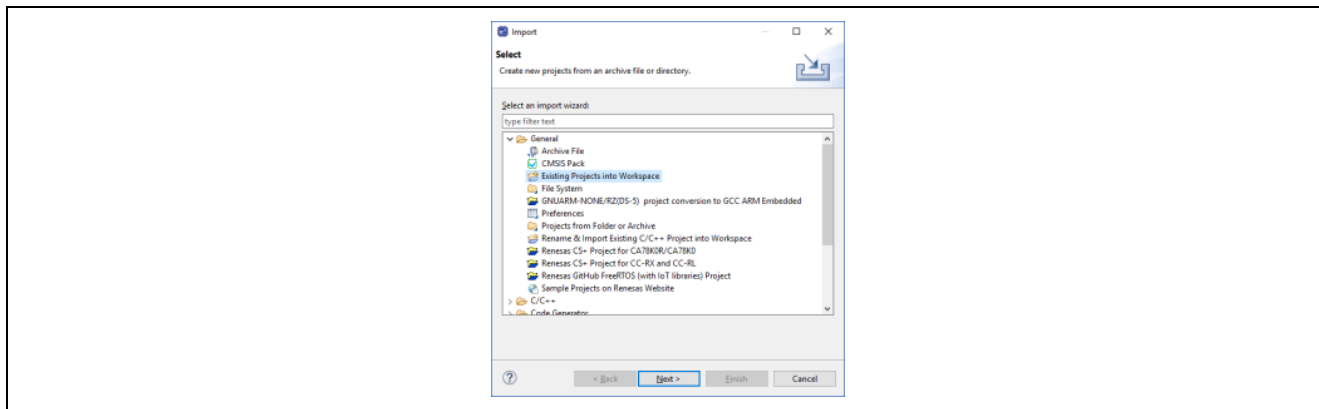

Figure 3-1. Import sample project (1)
4. Double-click **General** and select **Existing Projects into Workspace** as shown in Figure 3-1: